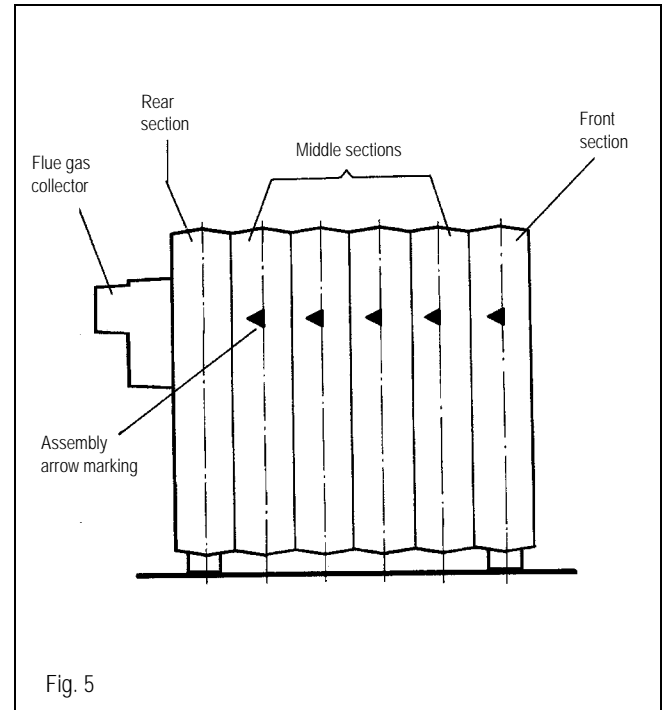

Fig. 5
The arrow markings on the sections must point to the rear (Fig. 5) and use the sequence in Table 5.
- Note the arrow marking on each section. These arrows are located on the top left and right of each section and must point to the rear during boiler assembly (Fig. 5).